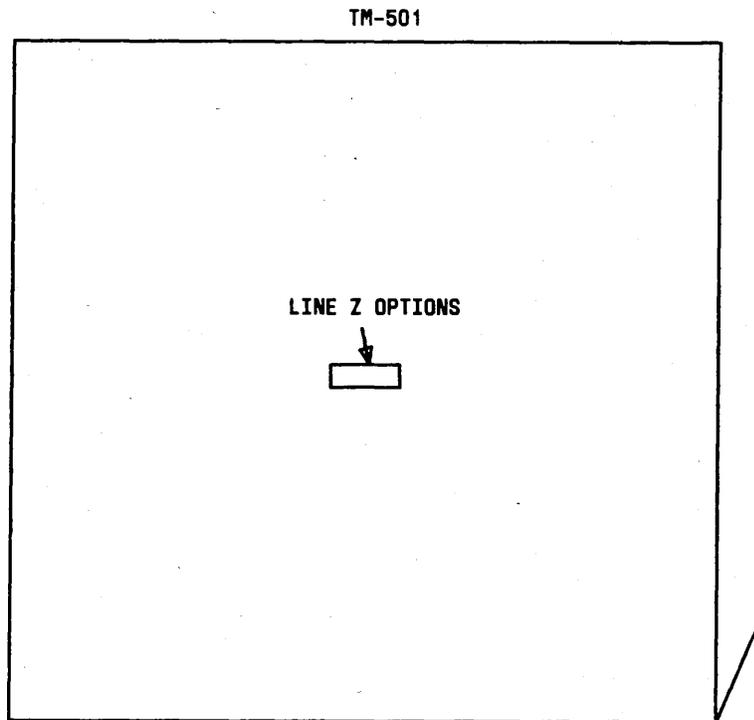

Fig. 12—Circuit Pack TM-501 Options
**3.12** On the component side of the circuit pack is an option switch containing eight rockers for selecting equalization, line coding format, and framing format. The location of the switch in relation to the faceplate lever is shown in Fig. 12.